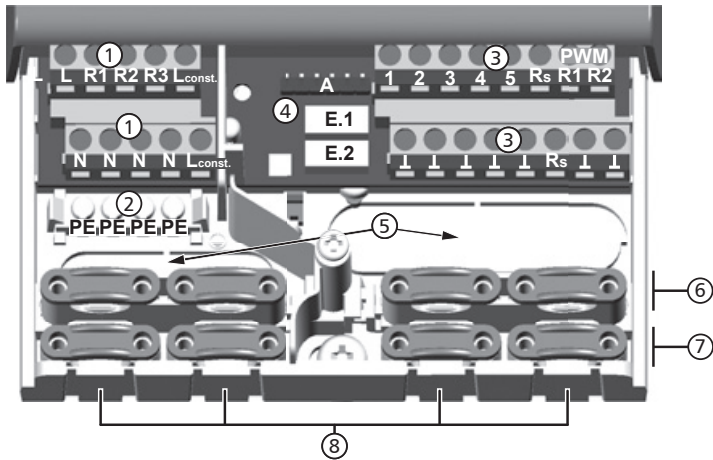

Fig. 3: Terminals in the lower part of the controller (terminal cover removed)
1. Break out the cable openings ⑤ (Fig. 3) using a suitable tool.
1. Cut the *required* cable openings ⑥ (Fig. 3) at the left and right using a suitable knife and break them out.